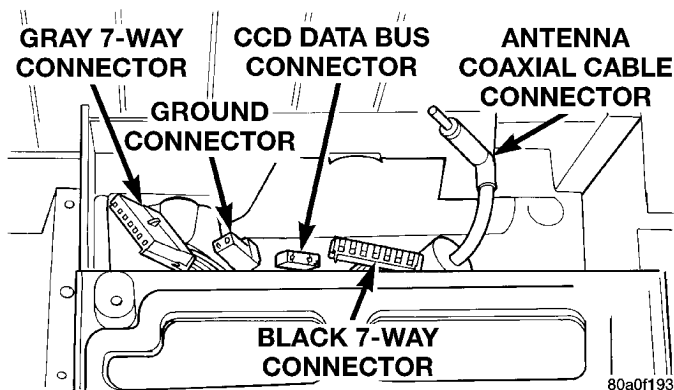

Fig. 4 Radio Connections
(6) Pull the radio out from the instrument panel far enough to access the wire harness connectors and the antenna coaxial cable connector (Fig. 4).